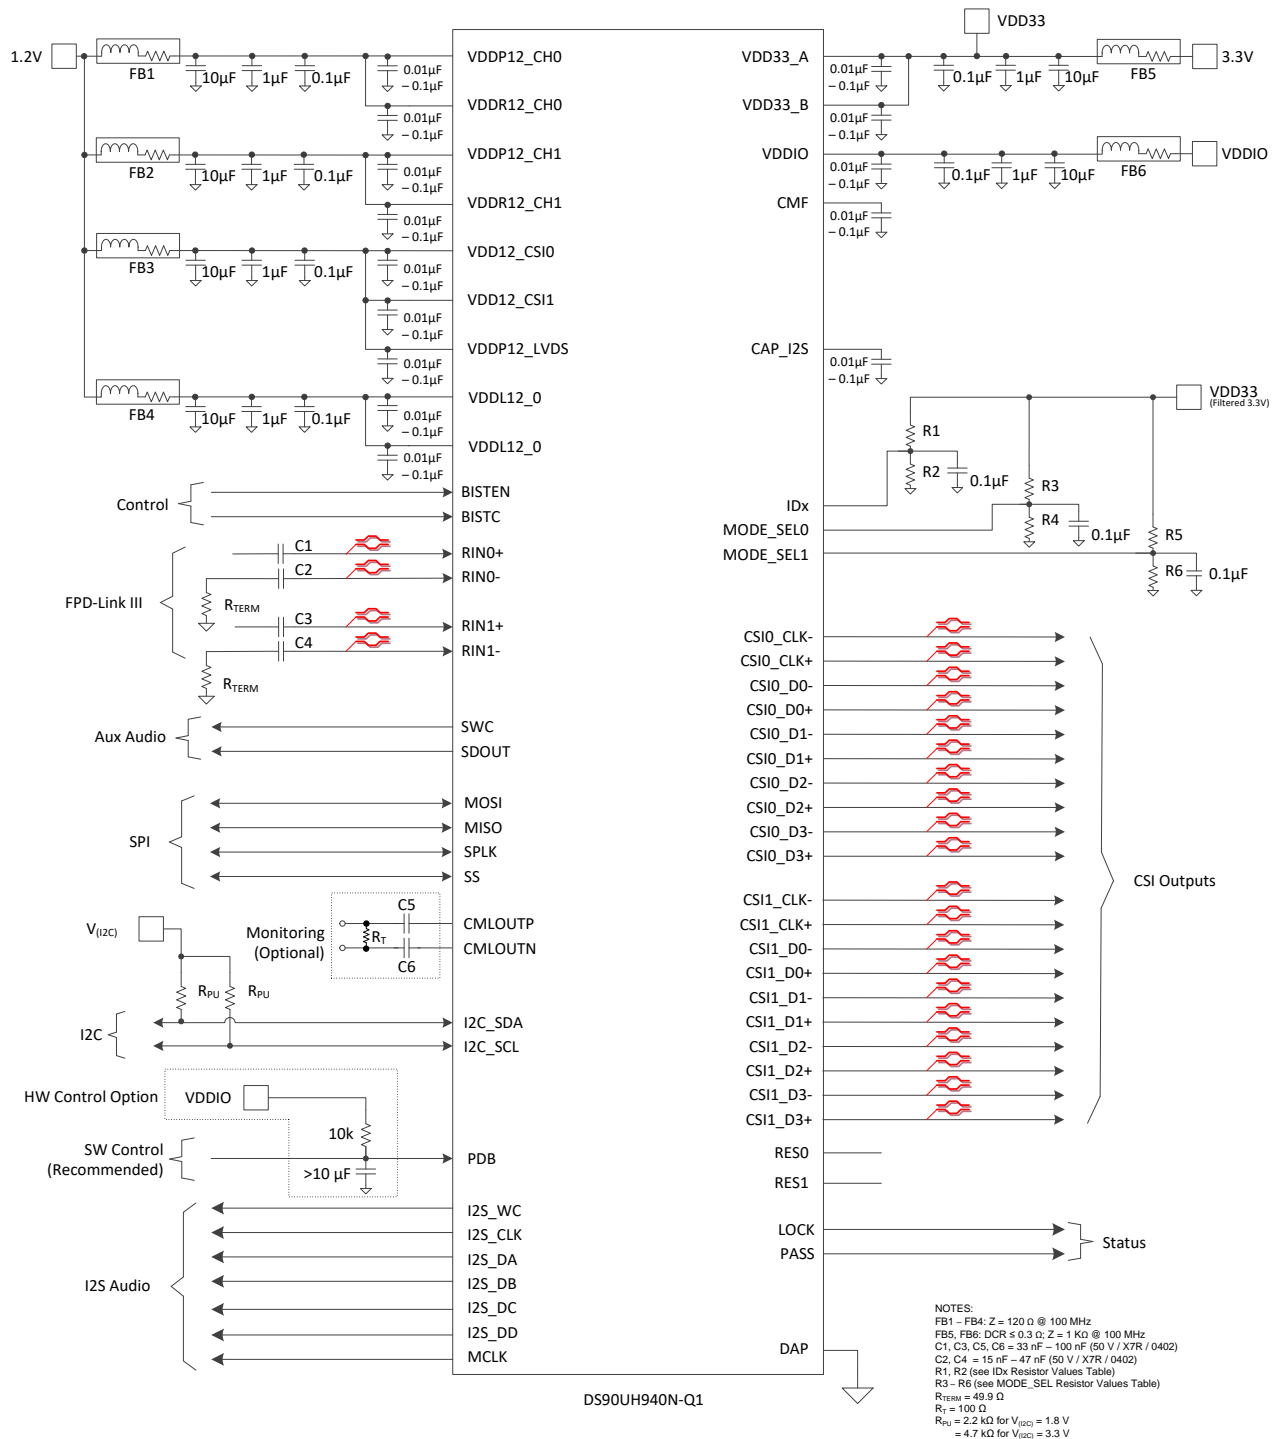

图 39. Typical Connection Diagram (Coax)
Bypass capacitors must be placed near the power supply pins. At a minimum, use four (4) 10-μF capacitors for local device bypassing. Ferrite beads are placed on the two sets of supply pins (VDD33 and VDDIO) for effective noise suppression. The interface to the graphics source is LVDS. The VDDIO pins may be connected to 3.3 V or 1.8 V. A capacitor and resistor are placed on the PDB pin to delay the enabling of the device until power is stable. See 图 38 for a typical STP connection diagram and 图 39 for a typical coax connection diagram.